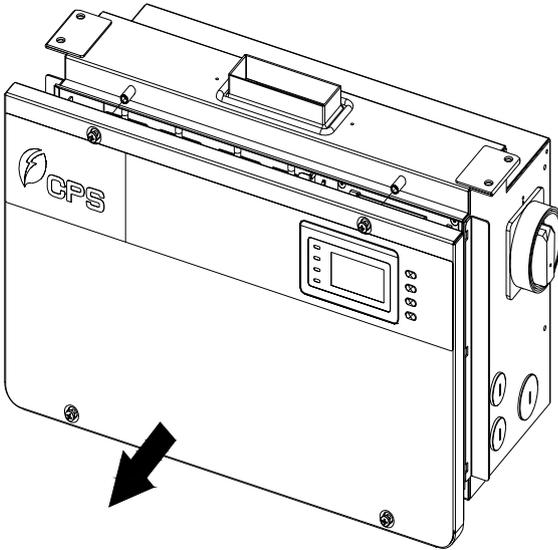

Figure 3-26 Take off the cover of the wiring box
- 1) Use No.3 Phillips head screwdriver to screw off the 4 screws on the wiring box and take off the cover. (see Figure 3-26)